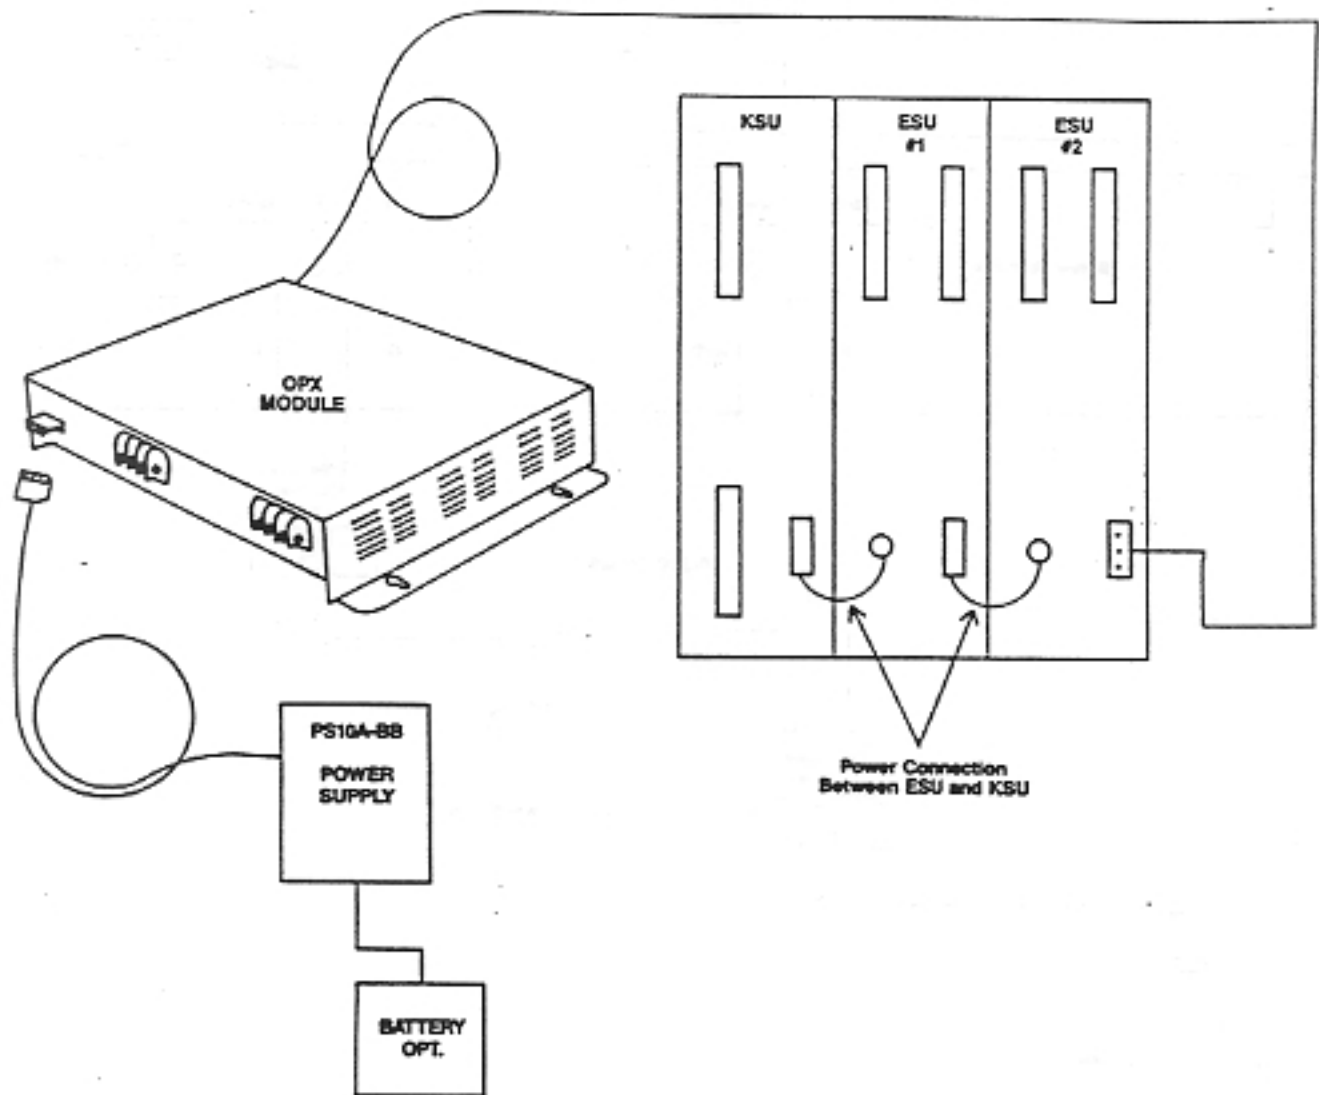
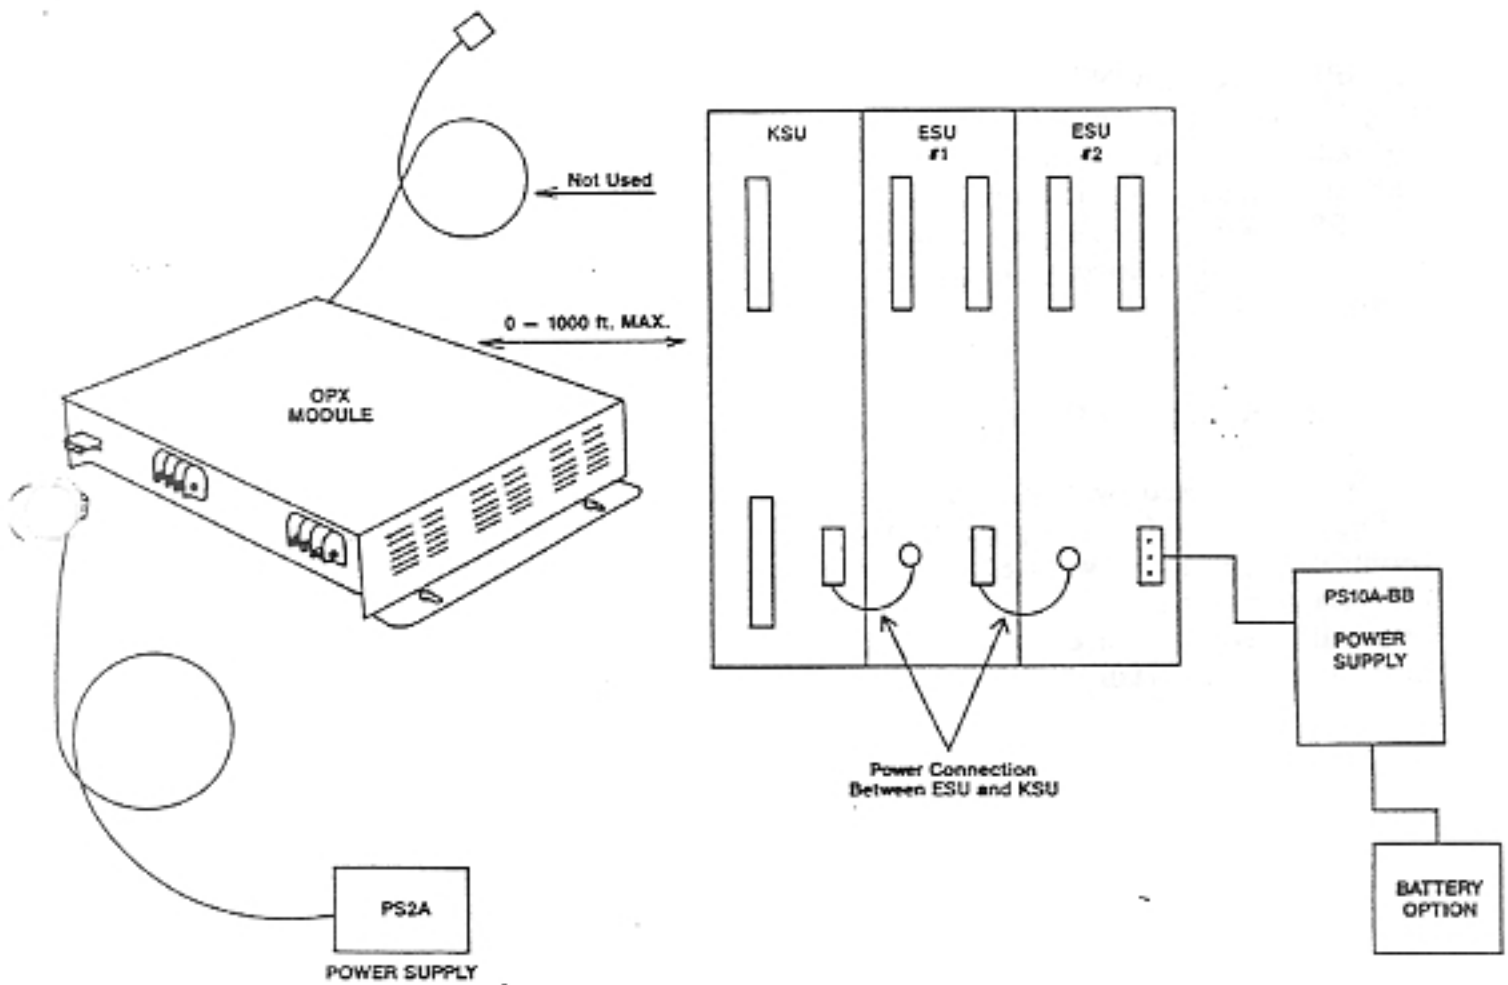

Figure 6-6 PS10A-BB Power Supply Connections
Figure 6-7 PS2A Power Supply Connections
PS10ABB (refer to Figure 6-6) power supply or in the case of a remote installation with the PS2A power supply (refer to Figure 6-7).
2. If installing the OPX at a location more than 3 feet from the KSU, be sure to have a PS2A power supply available (refer to Figure 6-7). In this case, it will not be necessary to power the system down in order to install the OPX unit.
3. If installation of the OPX requires the use of the existing PS10ABB power supply, it becomes necessary to power down the system and loop the power supply through the OPX unit as shown in Figure 6-6. (Only PS10ABB may be used in this particular application.) It is recommended that you complete all other cabling before powering the system down in order to minimize down time.